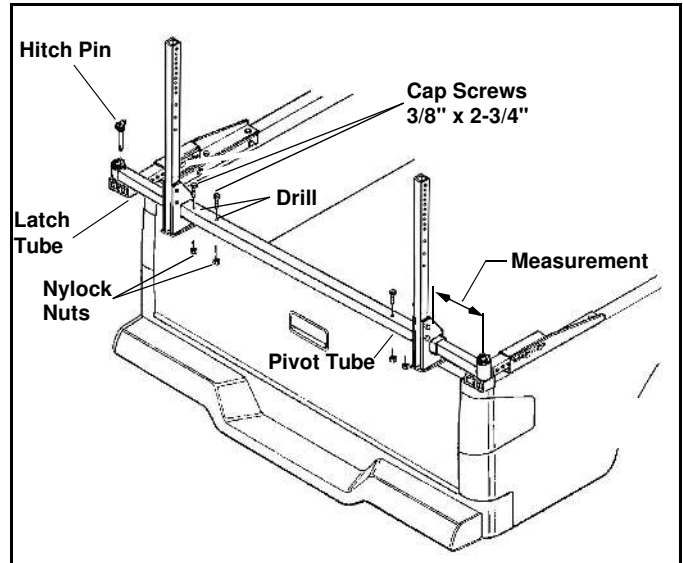

Figure 1-8
7. Remove the Front Center Tube Assembly, with Attaching Bars, and place the Lower Tube Assembly, with Pivot and Latch Tubes, on top of the Adjustment Bars, on the vehicle. Locate Pivot Side Pin in Hitch Pin hole on right side Adjustment Bar and secure Latch Side Tube to the left side Adjustment Bar with a Hitch Pin. (See Figure 1-8)
8. Measure from the center of the Pivot Pin to the nearest mounting plate in the Lower Tube Assembly. Move Lower Tube Assembly until this measurement matches the measurement recorded previously. (See Step #5.) When Lower Tube Assembly is correctly located, using the holes in the Lower Tube Assembly as templates, drill four (4) 13/32" holes through the Pivot and Latch Tubes. Secure each bar with two (2) 3/8" x 2-3/4" Cap Screws and Nylock Nuts provided. Remove the Lower Tube Assembly from the Adjustment Bars. (See Figure 1-8)